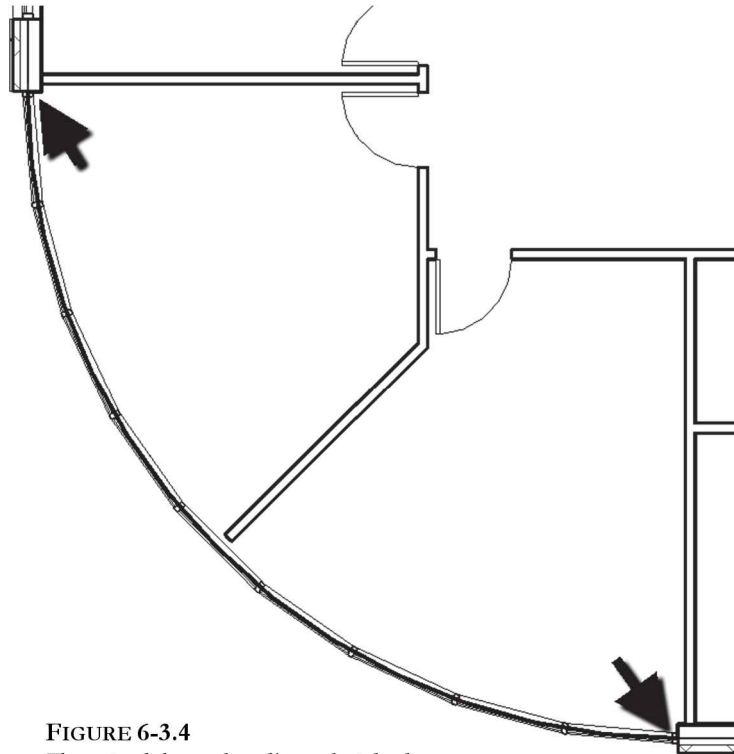

FIGURE 6-3.4
11. Sketch a line, using snaps, from the end of the arc to the adjacent wall sketch line (Figure 6-3.4).